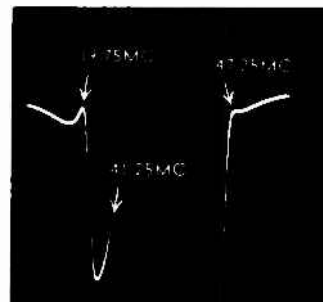

Fig. 18 Exploded View of Trap.
6. Adjust the 47.25 Mc, 41.25 Mc and 39.75 Mc traps for minimum marker amplitude (See Fig. 18). It can be seen that maximum oscilloscope gain has been used and as a result the top of the response curve has been "run off" the oscilloscope screen in order to see a "blow-up" of the trap slots.